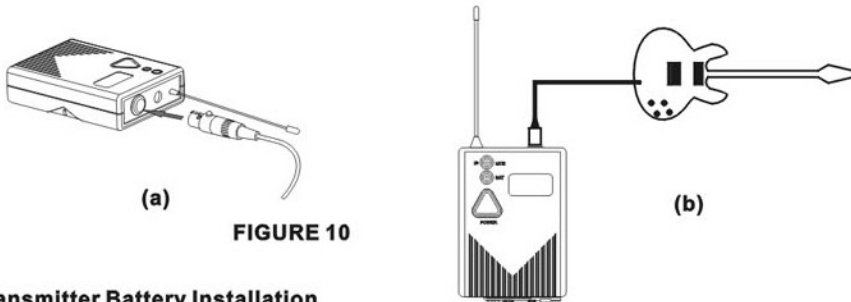

FIGURE 10
3. Guitar Microphone connection(Figure 10).